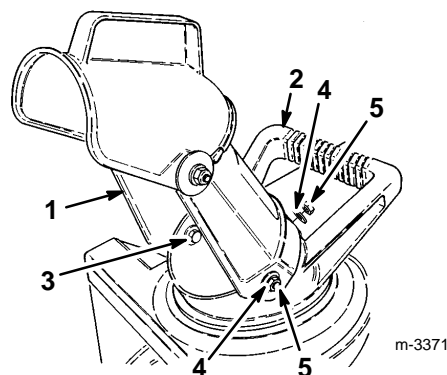

Figure 2
1. Position the holes on the discharge chute over the hex bolts on the sides of the chute handle (Fig. 2).
2. Secure the discharge chute onto the hex bolts with two washers and two locknuts (Fig. 2).
5. Install the locknut and washer **tightly** onto the screw at the rear of the discharge chute (Fig. 2).